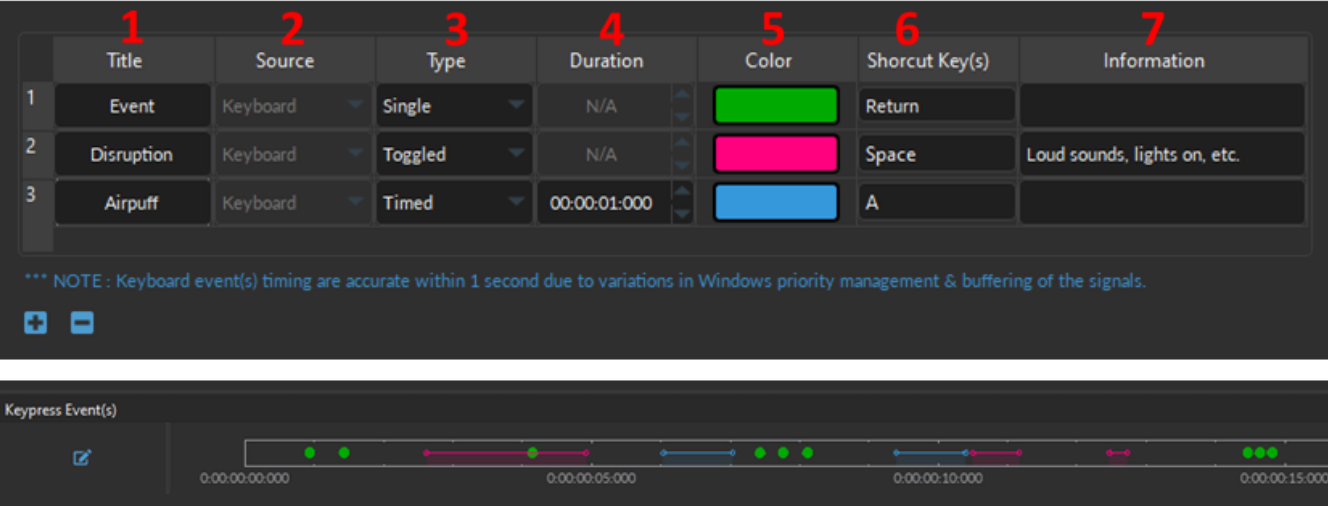

Figure 5.43: Channel(s) Configuration, Keypress Event(s)
The following are the configurable parameters of a **KeyPress Event**, per Fig. 5.43:
1. The **Title** (Fig. 5.43, 1) allows you to give a name for the Keypress event.
2. The **Source** (Fig. 5.43, 2) is by default *Keyboard*.
3. Three **Types** of Keypress Event(s) (Fig. 5.43, 3) can be specified with the drop-down list:
4. The **Duration** Fig. 5.43, 4) is only used for the **Timed** Keypress type to specify the predetermined amount of time a Keypress Event will span. The duration is set in hh:mm:ss:zzz.
5. Select the **Color** field Fig. 5.43, 5) to open the **Select Color** window. Basic colors are provided, in addition to custom colors can be created and stored.
6. The **Shortcut Key(s)** Fig. 5.43, 6) can be any keyboard key, including space bar, enter, backspace, any letters, number,s and special characters (*, !, ?, etc.). To specify the key, click inside the *Shortcut Key(s)* cell, then press the keyboard key of choice. If a key was properly set, it will appear in the *Shortcut Key(s)* cell (as in Fig. 5.43, column 6).
7. The **Information** column Fig. 5.43, 7) provides space to make notes or write a short description of the Keypress Event.